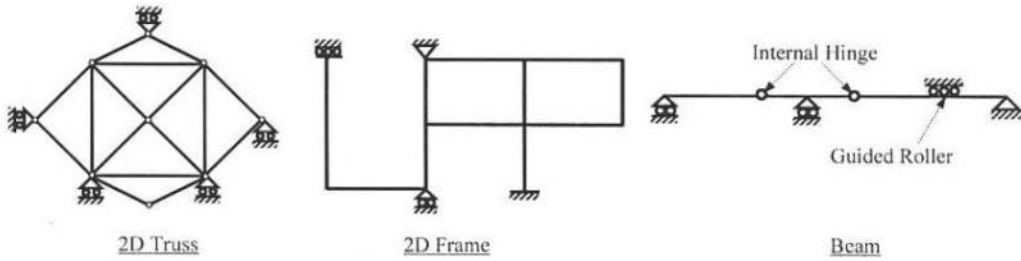

Fig. 11
13. Determine the size of flexibility matrix for the structures shown in Fig. 11. Also convert them to statically determinate structures to be used in 'Case 0' of Flexibility Method.